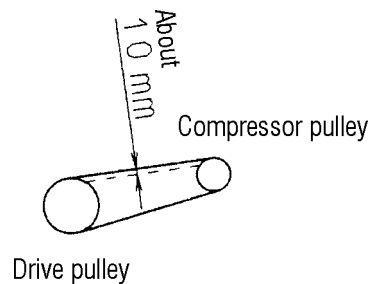

Fig. 3
- 5) Setting the drive belt on the air compressor pulley, adjust the nut (01580-01613) to tighten the belt tension. (Refer to Fig. 3)